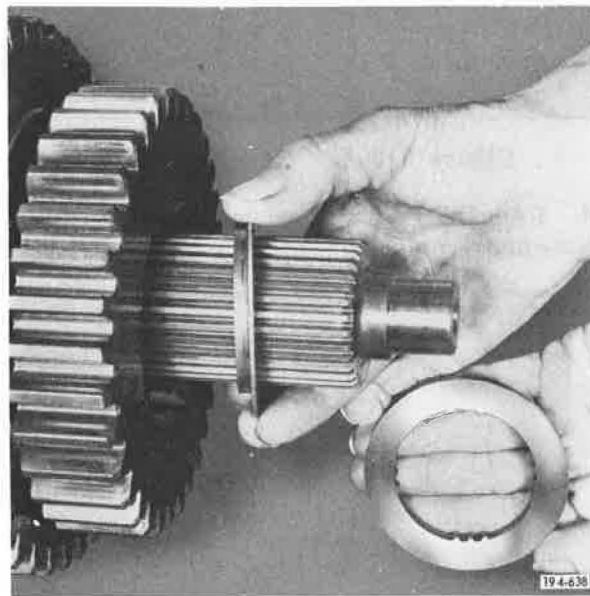

Figure 5-303. Removing Thrust Washers
5. Remove fourth speed gear splined thrust washer and flanged thrust washer. See Figure 5-303.